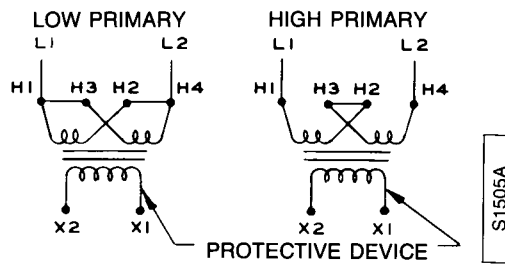

FIGURE 91
2. Reconnect the control circuit transformer, located inside the control enclosure. Connection instructions are located on the transformer. Refer to Table 15 and Figure 91.
(Figure 91)